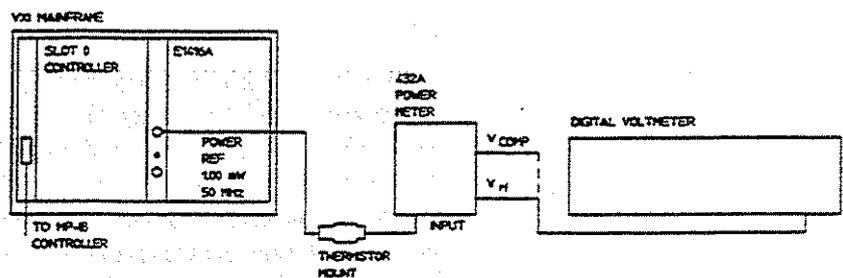

Figure B-4. Power Reference Level Test Setup
3. Connect the HP 432A power meter to the HP E1416A as shown in Figure B-4 and switch on all the equipment.